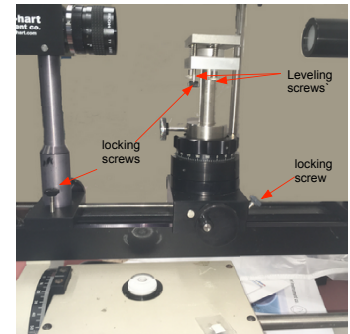

Figure 7 Side view of Goniometer showing locking screws on camera and stage base.
- b) Lock the sample stage to optical rail, Figure 7.